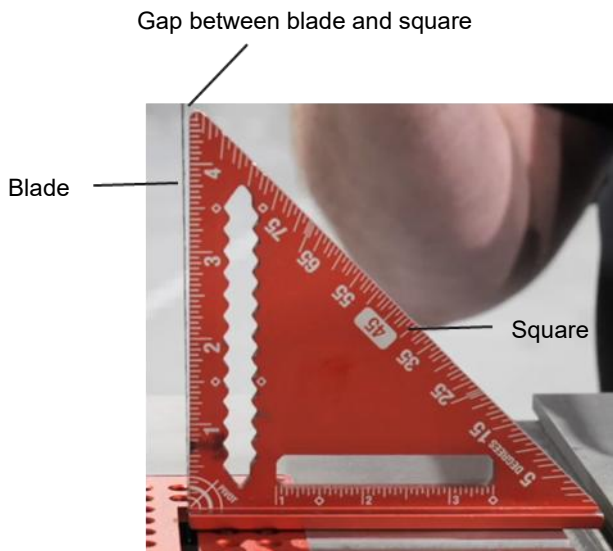

Fig. 38
2. Place a square to the blade and check if the blade is 90° to the table. If there is a gap between the blade and the square as shown (Fig.38), follow the steps below.